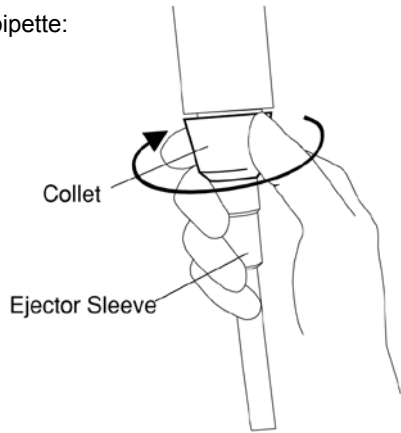

Figure F.1.1a: Detaching the Collet
1. Detach the collet by twisting it counter-clockwise (see *Figure F.1.1a*).